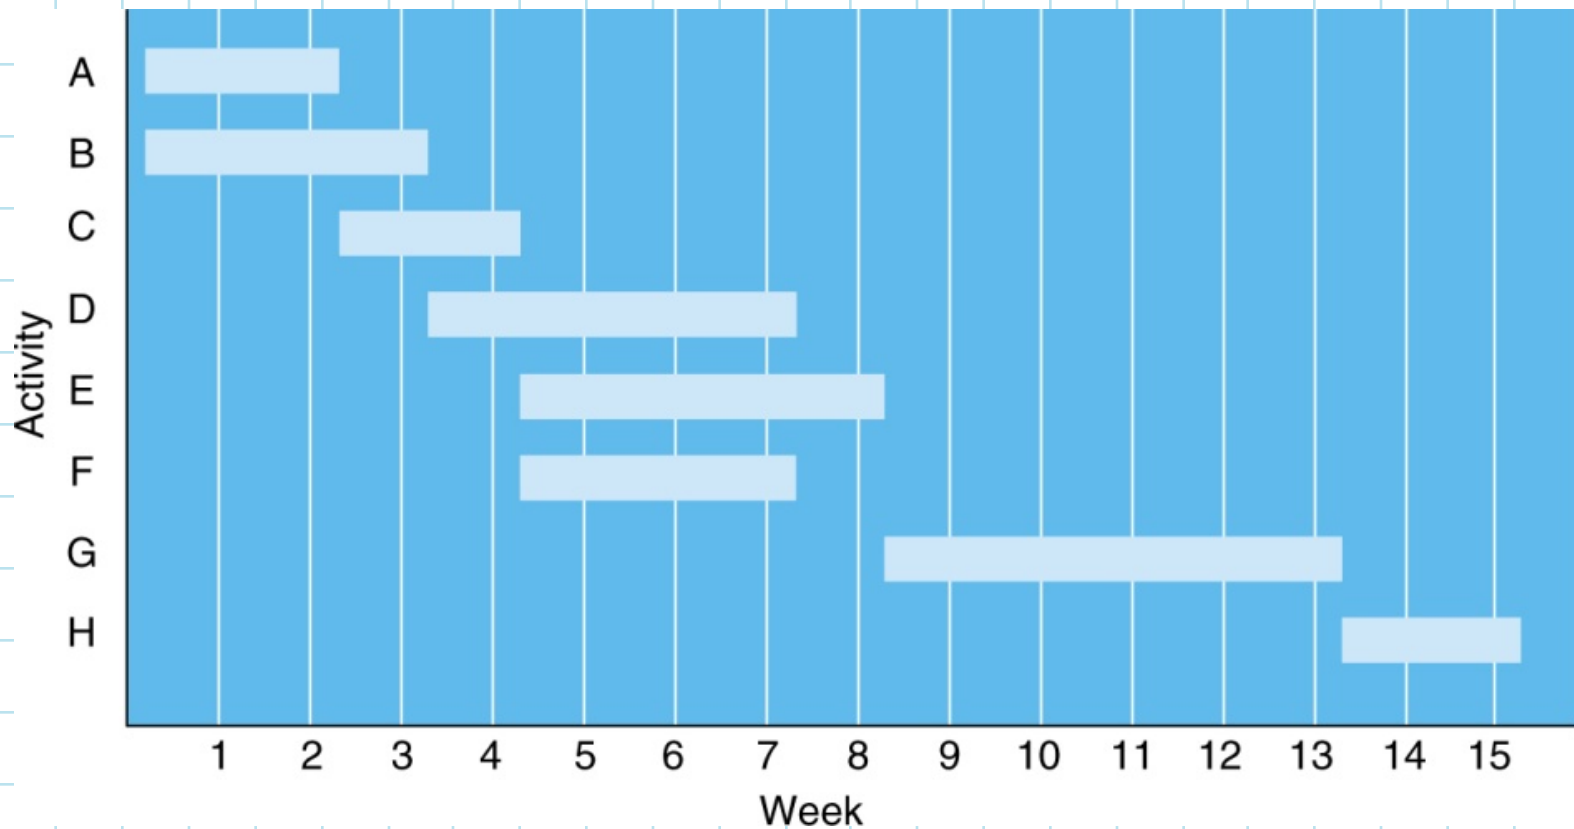

Figure 12.9
- **The Gantt chart in Figure 12.9 illustrates this process.**